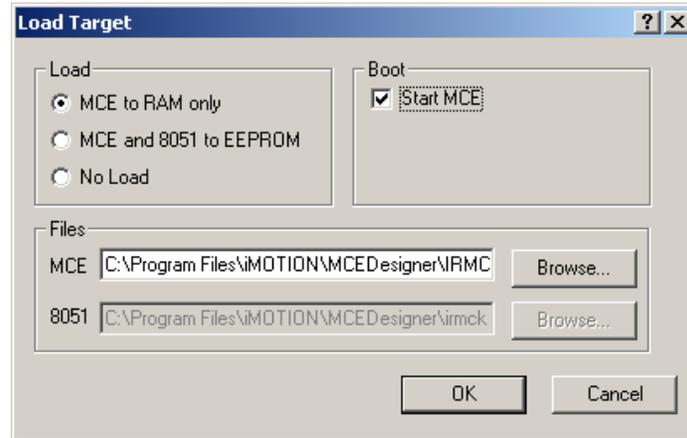

Figure 48—Load MCE to RAM
- In the Load box, click the “MCE to RAM only” radio button as shown in Figure 48. In the Boot box, check the “Start MCE” checkbox if you want MCEDesigner to start execution of the MCE code after it’s loaded. If you want to start execution as a separate operation, leave the checkbox unchecked.